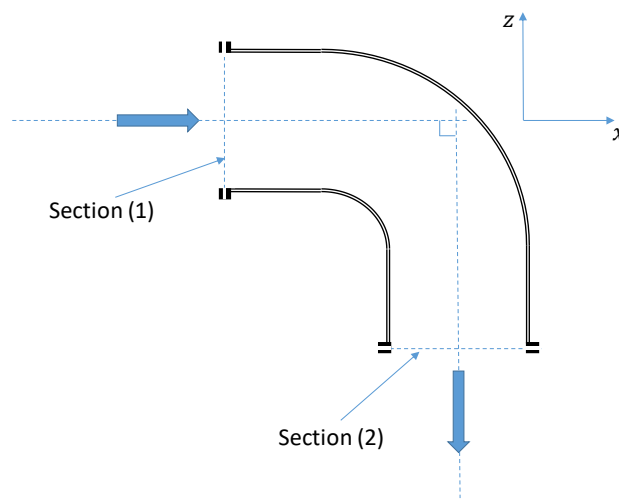

Figure 1. Question 2.
2. There is an angle of 90° in a pipe elbow in the vertical plane (see Fig. 1). The flow cross section of the pipe is constant at $D = 400$ mm. The elbow flow passage volume is 0.2 m^3 between sections (1) and (2). The water volume flowrate is $0.5 \text{ m}^3/\text{s}$ and the elbow inlet and outlet pressures are 100 kPa and 80 kPa . The elbow mass is 10 kg . Calculate the horizontal (x-direction) and vertical (z-direction) anchoring forces required to hold the elbow in place.